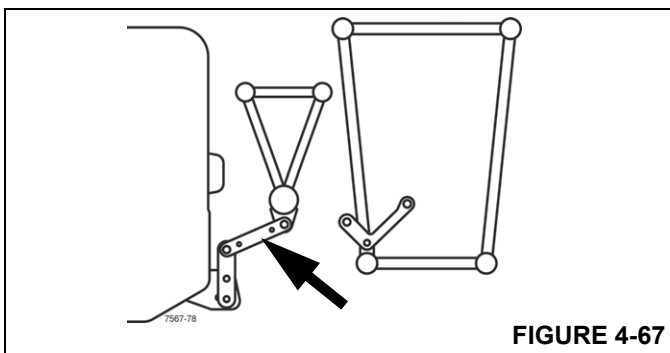

FIGURE 4-67
- The connection between 23 ft (7 m) extension and main boom at the rear, is established (Figure 4-67).